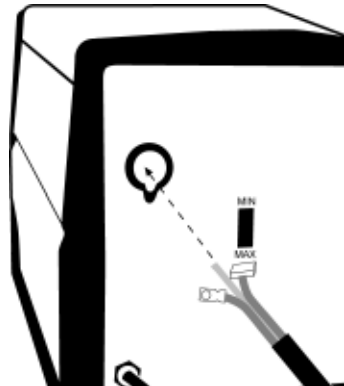

Figure 5.
4. Insert Torch Cable through Torch Cable Grommet on the face of the welder. (See Figure 5)